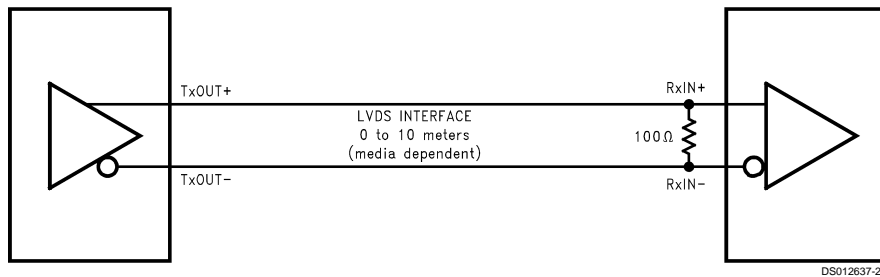

FIGURE 18. LVDS Serialized Link Termination
**TERMINATION:** Use of current mode drivers requires a terminating resistor across the receiver inputs. The CHANNEL LINK chipset will normally require a single 100Ω resistor between the true and complement lines on each differential pair of the receiver input. The actual value of the termination resistor should be selected to match the differential mode characteristic impedance (90Ω to 120Ω typical) of the cable. Figure 18 shows an example. No additional pull-up or pull-down resistors are necessary as with some other differential technologies such as PECL. Surface mount resistors are recommended to avoid the additional inductance that accompanies leaded resistors. These resistors should be placed as close as possible to the receiver input pins to reduce stubs and effectively terminate the differential lines.